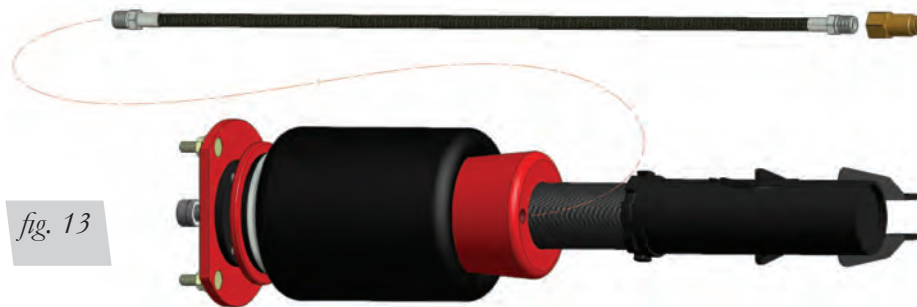

fig. 13
1. Begin by installing the leader line into the air spring (fig. 13). Wrap the threads of the leader hose with Teflon tape or thread sealant. Tighten the appropriate fitting to the airline 1 ¾ turns beyond hand tight. Tighten the leader line into the air spring 1 ¾ turns beyond hand tight.